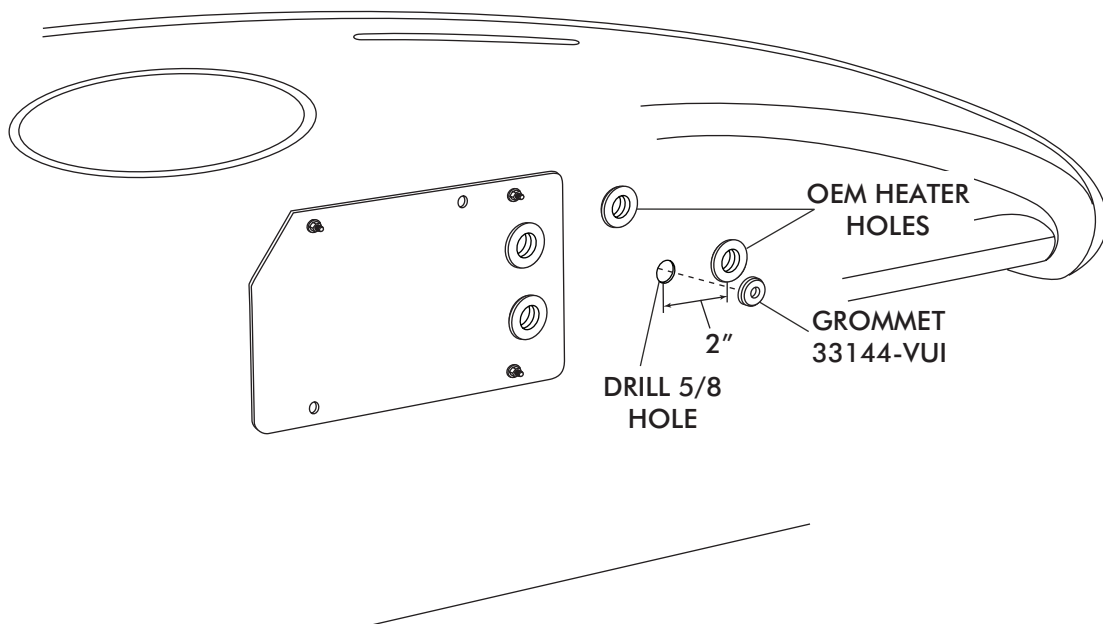

FIGURE 13
- ROUTE A/C WIRES THROUGH 3/8 GROMMET AS SHOWN ON FIGURE 13 (12 VOLT/ GROUND/ BINARY SWITCH/ HEATER VALVE).